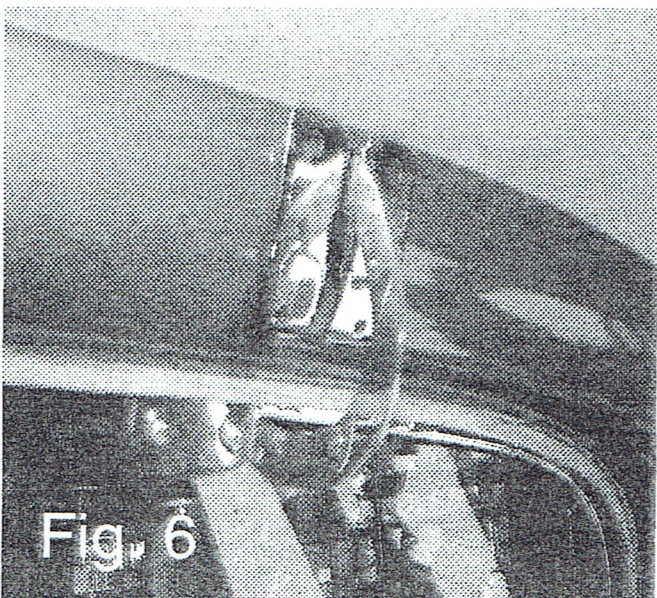

Fig. 6
Now you can put the window frame into the opening and center it side to side. A little dish soap around the opening will help the window slide into place. Bolt the left and right hinge assemblies to the frame using the (4) 5x10mm button-head Allen screws, flat washers and lock washers. **Do not forget about the washers.** Without the washers the screws can contact the glass and cause it to crack. Tighten the screws with a 3mm Allen wrench then push out at the top of the window until the hinge side brackets touch the body. The top of the brackets should be at the edge of the headliner, if not the slots may need to be adjusted now using a small burr on a dremel or die grinder. (See Fig.6)